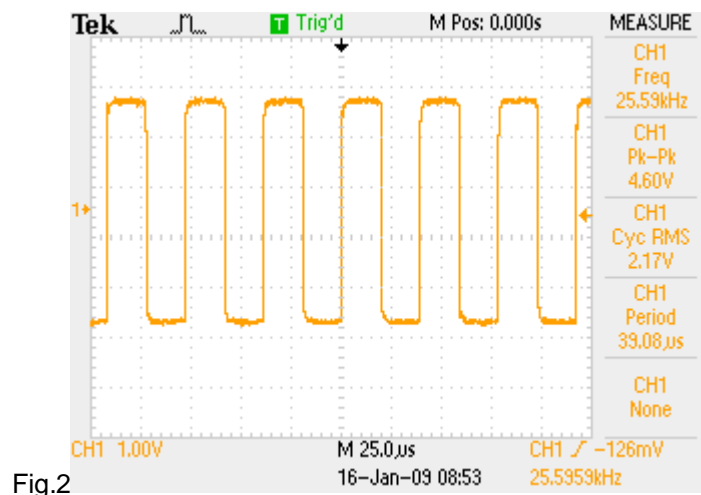

Fig.2
6.2.7 VERIFY WAVEFORM IN FIG.2 WITH SCOPE PROBE AT X10 AT CONNECTOR DPPL1-1 TO DPPL1-2.